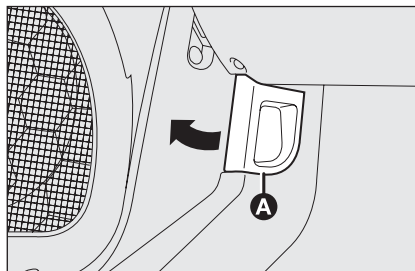

fig. 106
- ☐ pull lever **A**-**fig. 106** in the direction of the arrow;